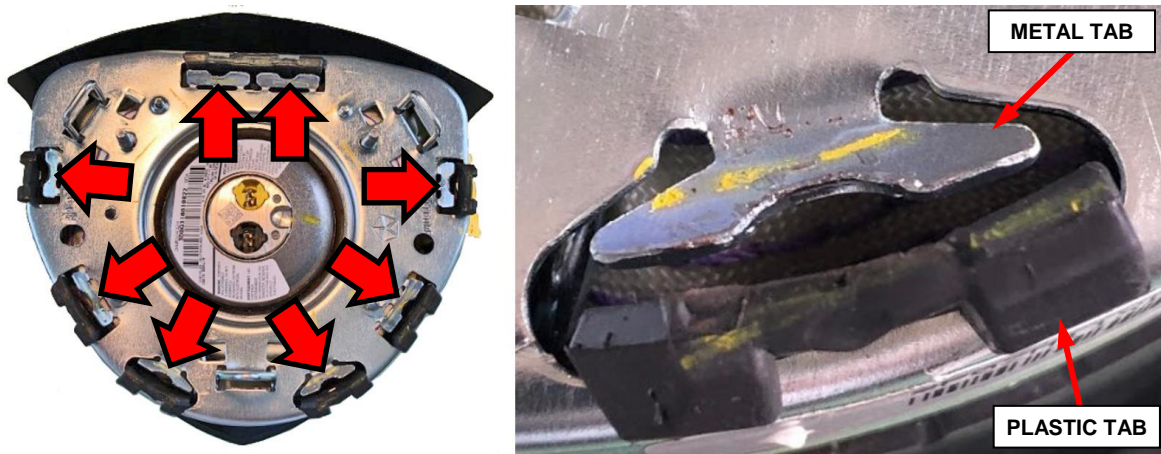

Figure 16 – DAB Cover Installation
3. Install backing plate working from bottom to top, inserting the plastic cover tabs into their respective slots in the backing plate. Make sure the cover tabs are engaged with the metal backing plate divots (Figure 16).
4. Bend the eight metal backing plate tabs down using the wide-tipped long-nose pliers (Figures 16 and 17).